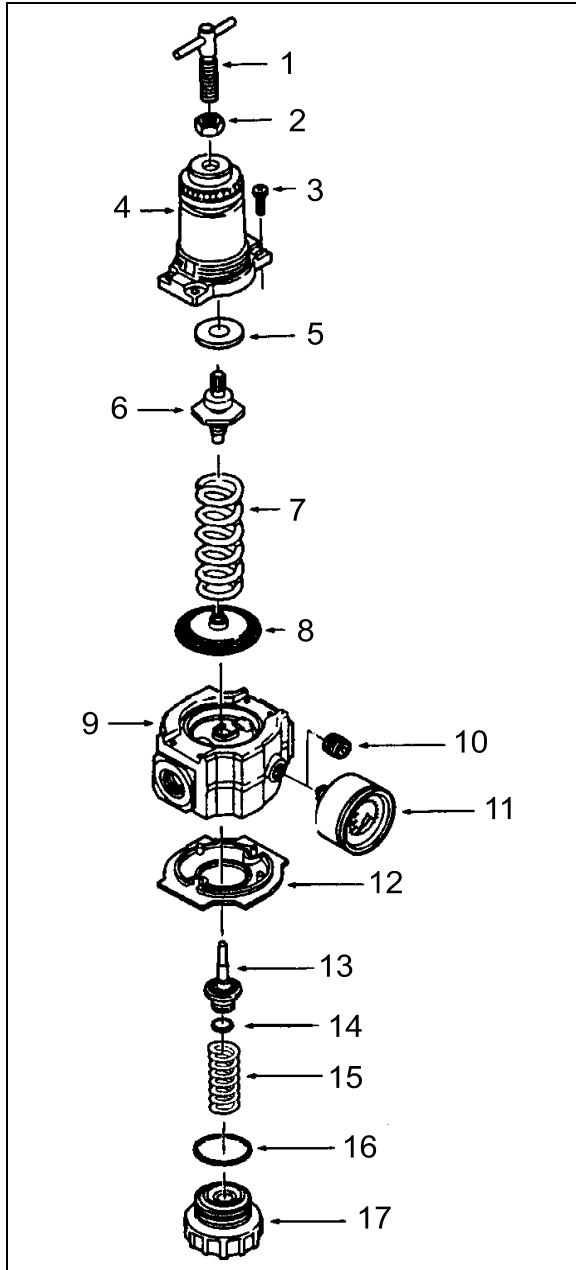

FIGURE 53: AIR PRESSURE REGULATOR 16035
1. Before turning on system air pressure, release jam nut (2, Fig. 53) then turn regulator adjustment handle counterclockwise until the load is removed from the regulating spring.
5. Tighten jam nut (2, Fig. 53) to lock pressure setting.
1. Shut off inlet pressure and reduce pressure in inlet and outlet lines to zero. Turn regulator adjustment handle (1, Fig. 53) counterclockwise until all load is removed from regulating spring. Regulator can be disassembled without removal from air line.
1. Lubricate O-ring (14 and 16, Fig. 53), valve stem (13), tip of adjusting screw (1), and the outer circumference and both sides of the thrust washer (8) with a light coat of good quality O-ring grease.